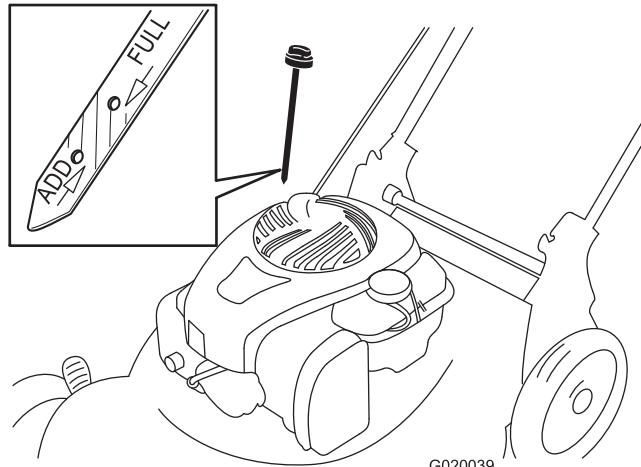

Figure 5
- Remove the dipstick and read the oil level on the dipstick (Figure 5).
- Remove the dipstick (Figure 5) and pour about 3/4 of the crankcase capacity of oil into the oil-fill tube.